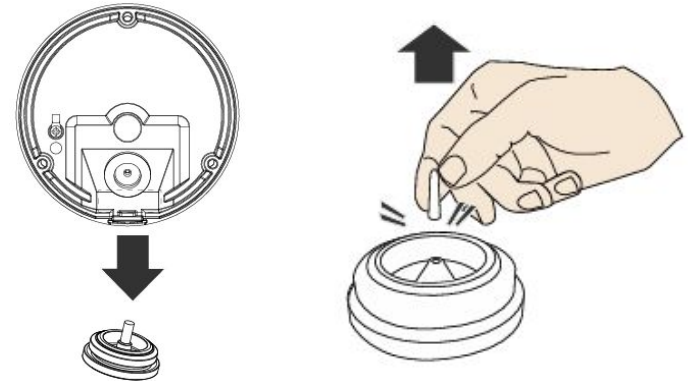

Figure 1-3
**Step 3** Remove the grommet located on the bottom side of the camera, then snip off stopper plug. See Figure 1-3.